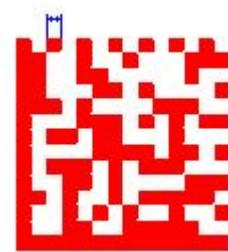

Figure 4-23 Data Matrix
**Narrow Width:** the width of the unit bar (Figure 4-23)